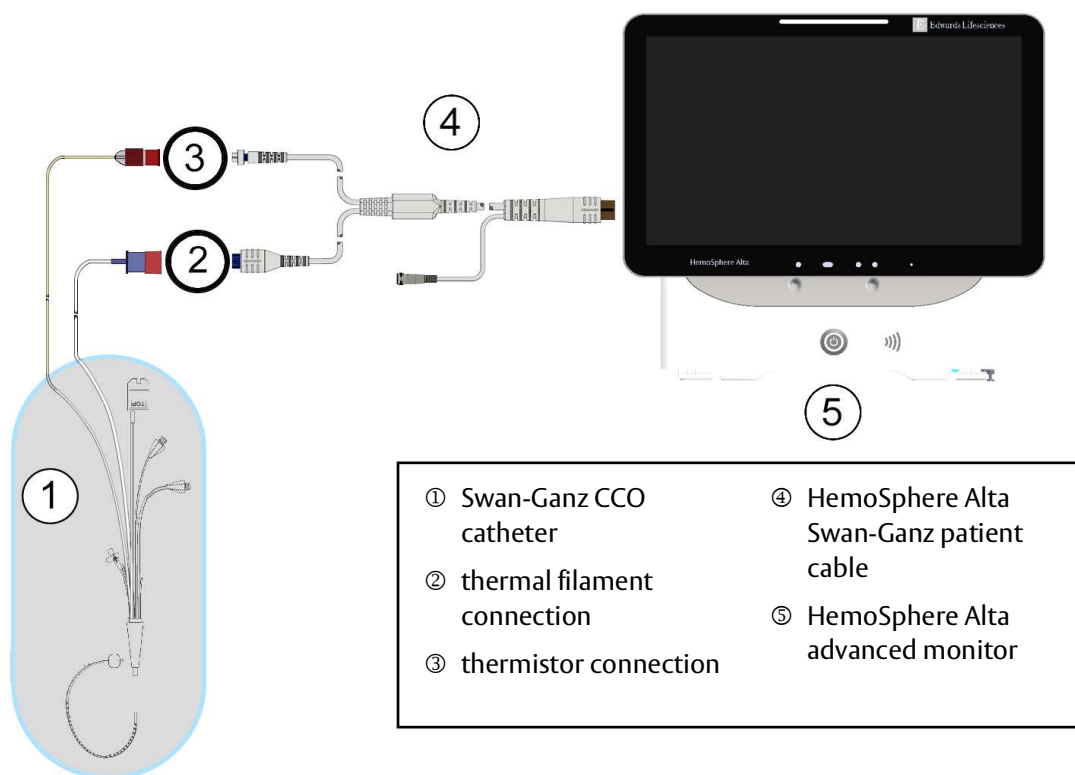

Figure 8-2 CO connection overview
- 2 Attach the catheter end of the patient cable to the thermistor and thermal filament connectors on the Swan-Ganz CCO catheter. These connections are emphasized as numbers ② and ③ in Figure 8-2 on page 138.